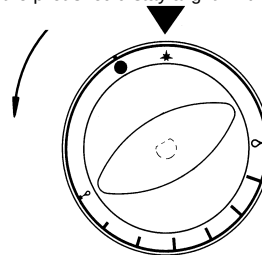

FIG. 1
6.2 TURNING THE OPEN FLAME BURNERS ON (Fig. 1)
To light the burner, connected to the cock, press the knob until it stops and then turn it in the direction indicated by the arrow until it reaches the * "PILOT" position (Fig. 1).